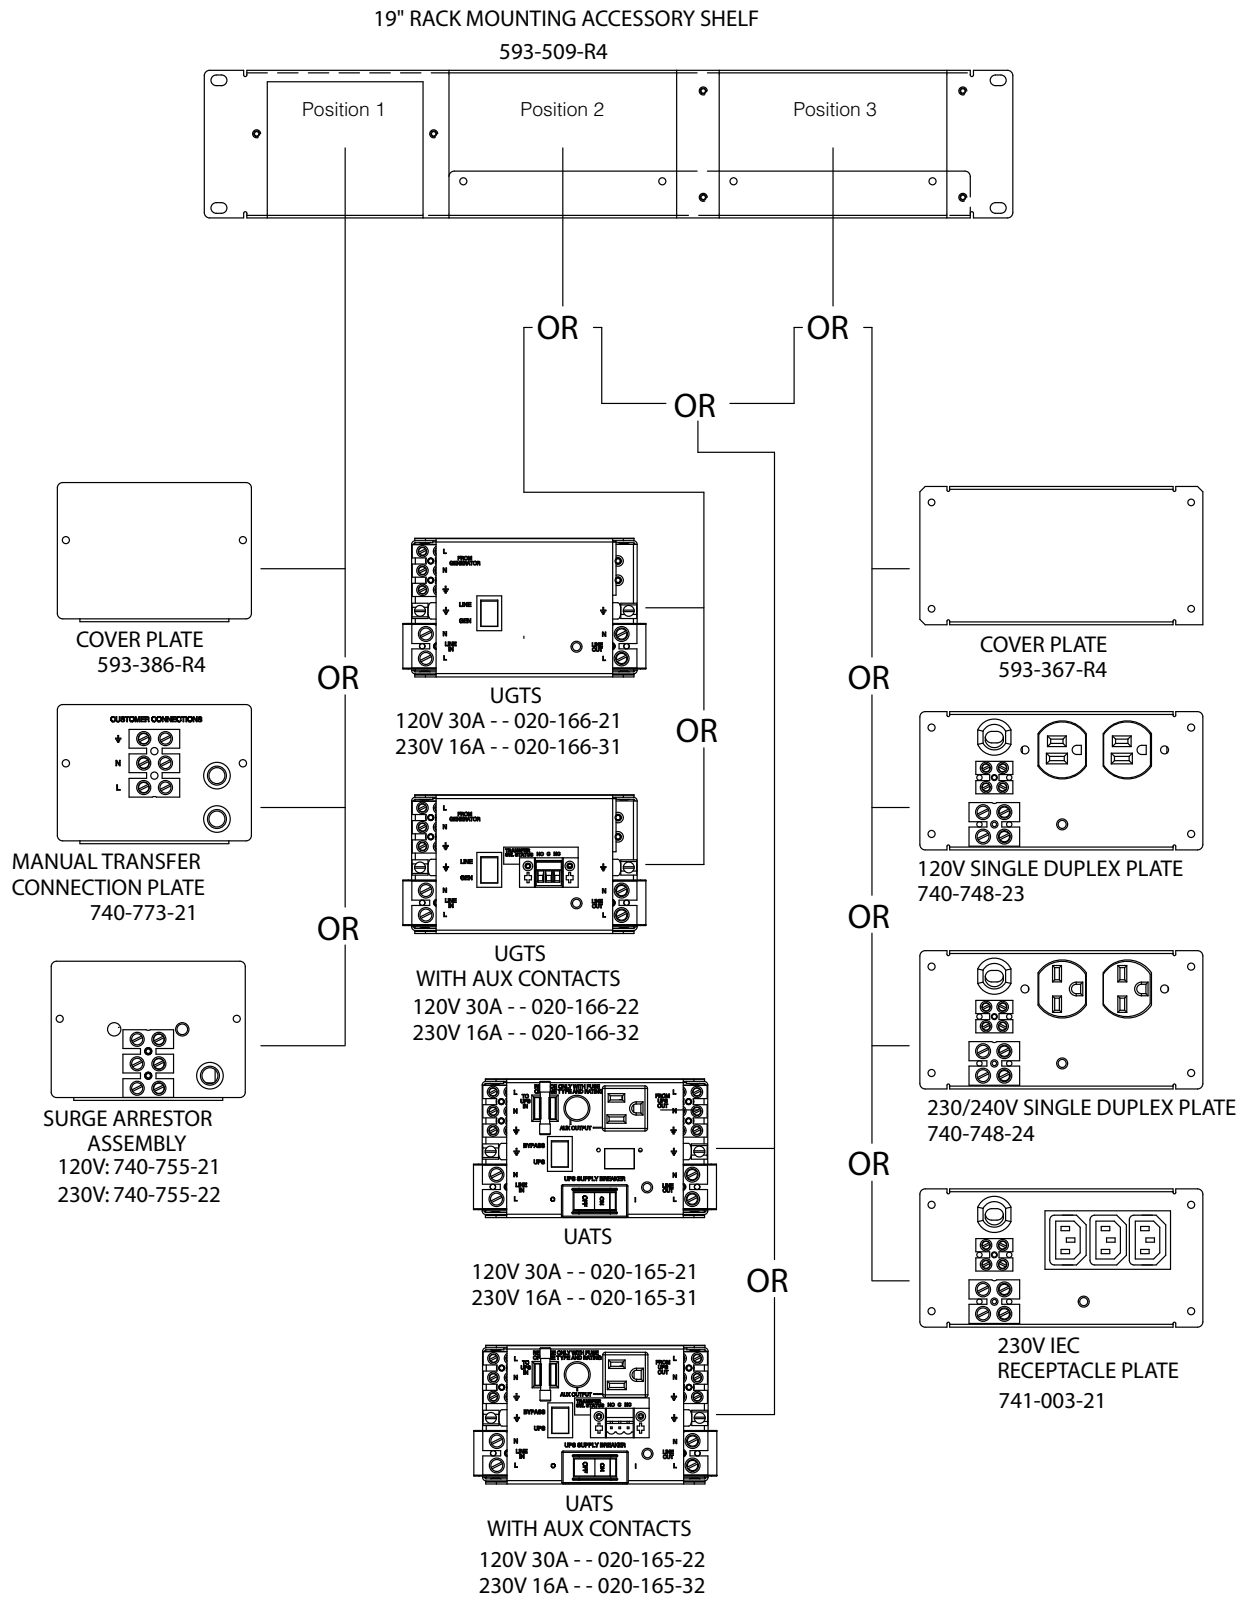

Figure 5.7 – Rack mounting Accessory Shelf - possible combinations
Figure 5.7 shows various configurations of mounting the UATS and UGTS onto the optional 19" Rack Mounting Accessory Shelf. Note that the UATS and/or UGTS can only be mounted in position 2 and/or position 3 as shown.
19" Rack Mounting Accessory Shelf (p/n 593-509-R4) with the following options: (see Figure 5.7 on page 17 for more information)
- TVSS (p/n 740-755-21 (120V), 740-755-22 (230V)); this Transient Voltage Surge Suppressor is intended to be installed before the AC Line input of the Transfer Switch. See Figure 5.7 for mounting configurations.
The Rack Mount Accessory Shelf is shipped with the accessories pre-wired in Position 1, Position 2 and Position 3 where applicable. See Figure 5.7 and 5.8 for standard configurations. If the Rack Mount Accessory Shelf is pre-installed in an end system enclosure, any wiring to the enclosure accessories, if possible, will also be pre-wired. Figures 5.10 to 5.12 illustrates the field wiring connections for the Surge Arrestor Plate, Manual Transfer Connection Plate and the Receptacle Plates.